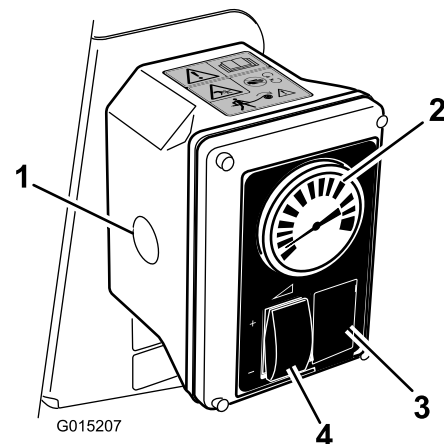

Figure 13
6. Adjust the rate control switch and the throttle to increase or decrease the pressure, as read on the pressure gauge, to the desired setting (Figure 13).